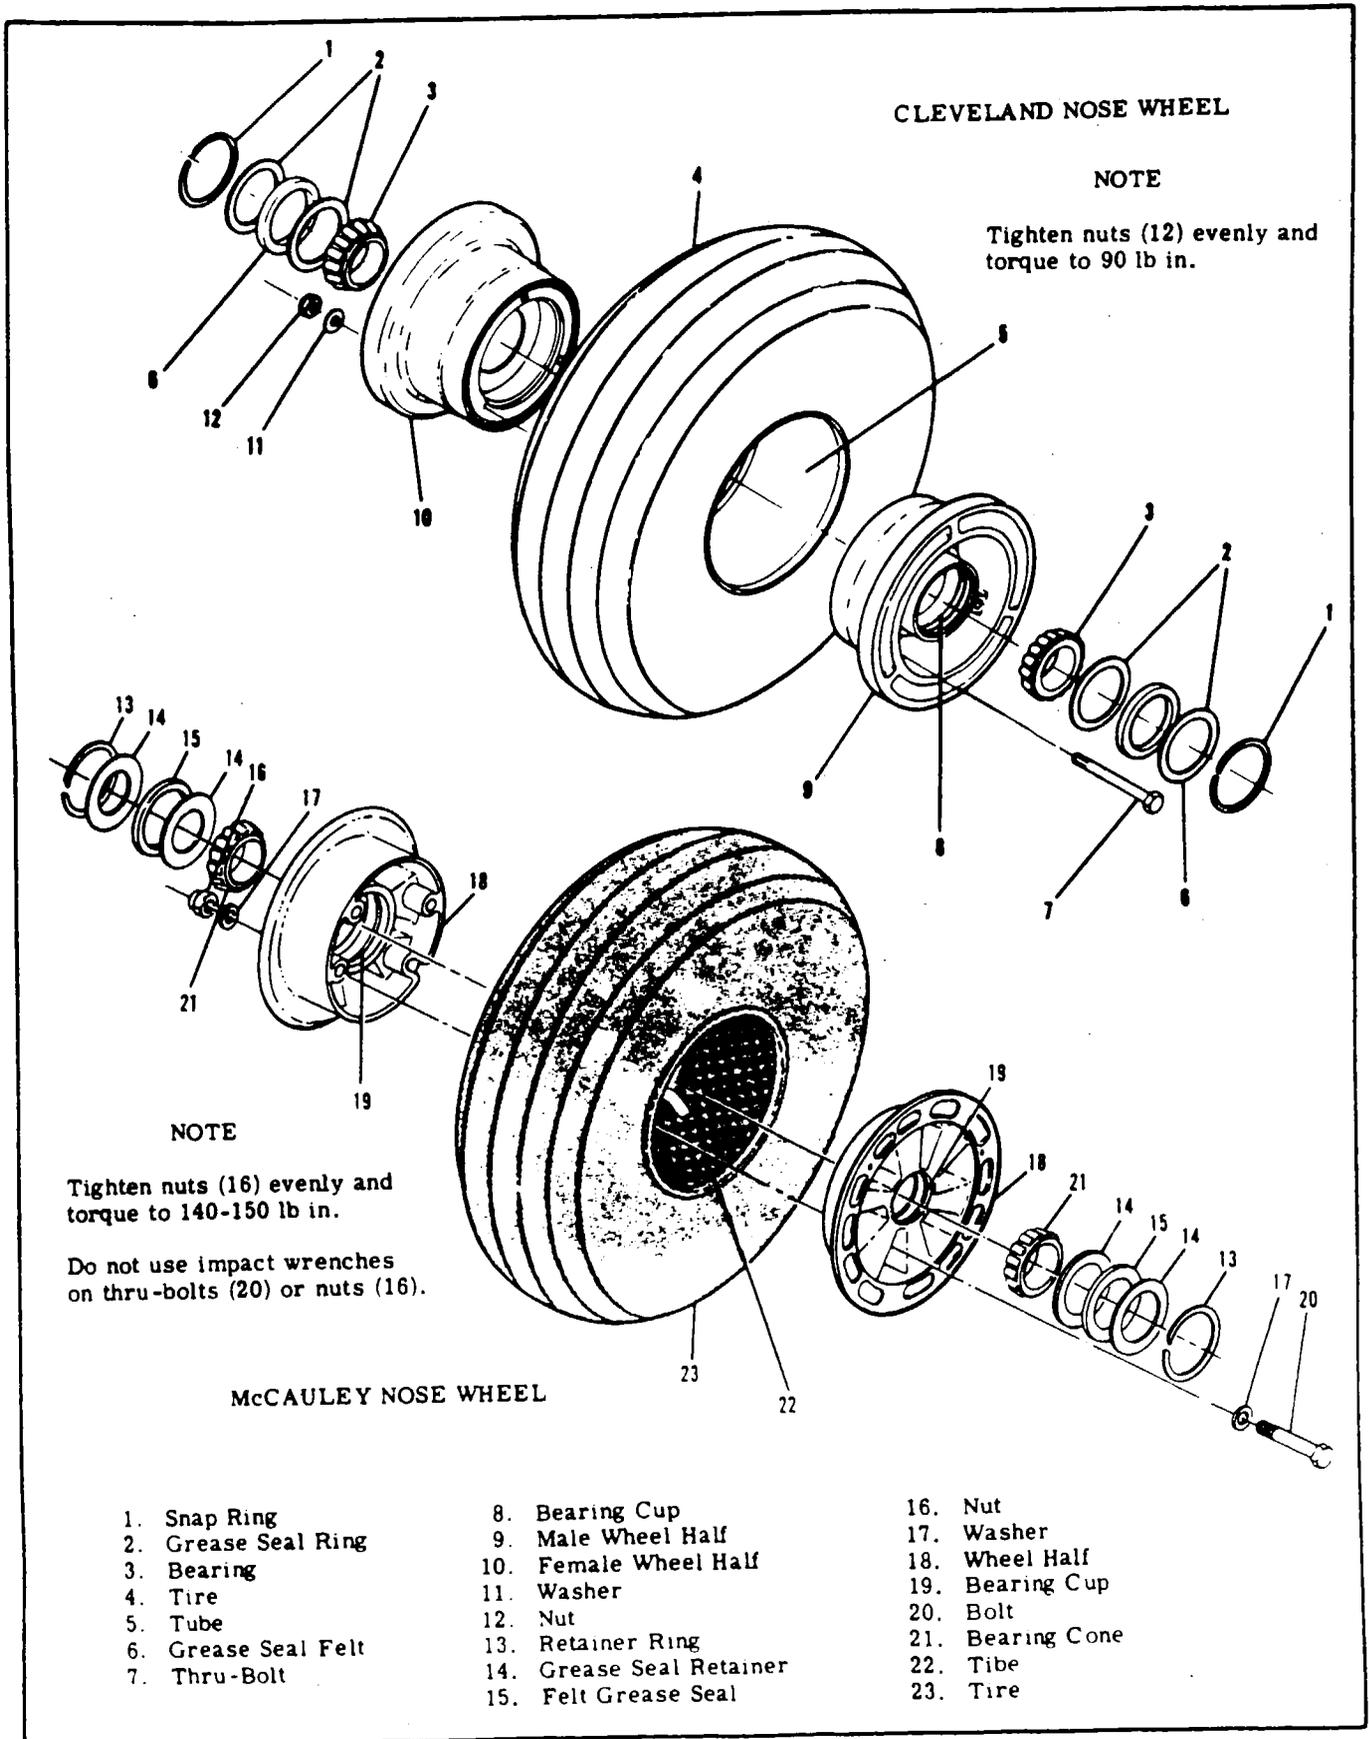

Figure 5-24. Nose gear Wheel and Tire Assembly
5-136. NOSE WHEEL AND TIRE ASSEMBLY (Refer to figure 5-24.)
5-140. DISASSEMBLY OF CLEVELAND NOSE WHEEL AND TIRE ASSEMBLY. (Refer to figure 5-24.)
5-142. REASSEMBLY OF CLEVELAND NOSE WHEEL AND TIRE ASSEMBLY. (Refer to figure 5-24.)
- c. Insert thru-bolts, position other wheel half and secure with nuts and washers. Torque bolts to value stipulated in figure 5-24.
5-143. DISASSEMBLY OF McCAULEY NOSE WHEEL AND TIRE ASSEMBLY. (Refer to figure 5-24.)
5-145. REASSEMBLY OF McCAULEY NOSE WHEEL AND TIRE ASSEMBLY. (See figure 5-24.)